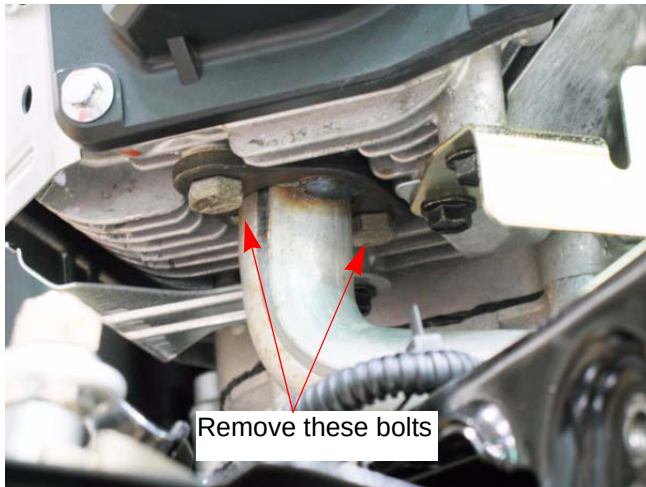

Figure 2.7
2. Remove the two mounting bolts using a 1/2" wrench. See Figure 2.7.